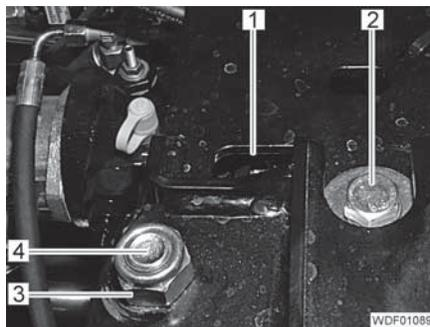

Fig. 359 Traverse attachment
- Unscrew 1 nut (Fig. 359,3) on both sides.
- Unscrew 1 screw (Fig. 359,2) on both sides.
- Remove the traverse (Fig. 359,1).
- Fit the traverse (Fig. 359,1).
- Screw in and tighten 1 screw (Fig. 359,2) on each side with spring lock washers and disks.
- Insert 1 screw (Fig. 359,4) from below through the traverse on each side and secure with 1 nut (Fig. 359,3) on each side.